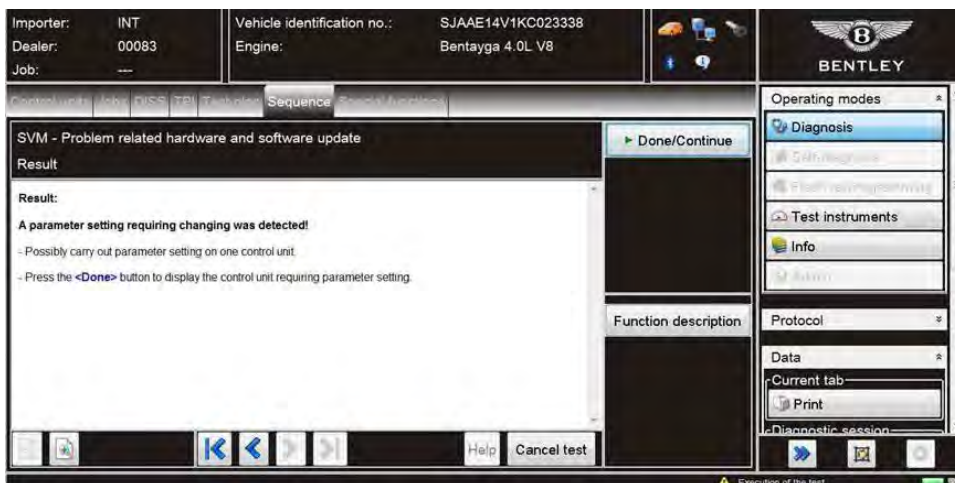

Figure 3
3. Follow on screen prompts until the screen below is displayed (Figure 3), select Done/Continue, the parameters of the front camera will now be set.